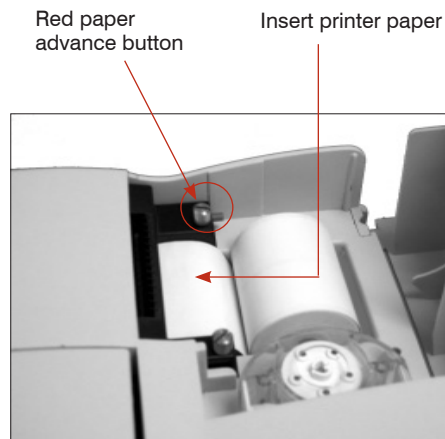

Figure C-4: Thermal printer
2. Press the red Paper Advance button to eject any remaining paper (Figure C-4).
5. With the VetStat analyzer turned on, thread the paper into the feeder slot on the analyzer (Figure C-4).